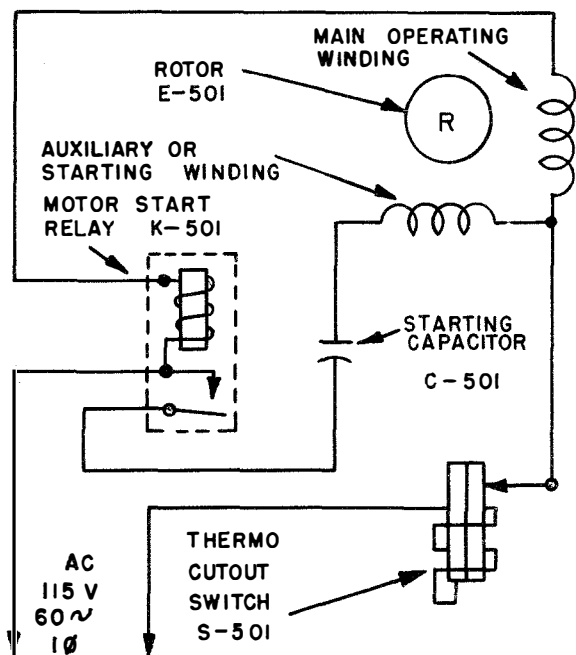

Figure 2-76A. AC Motor (Synchronous) PD-17A/U,
b. AC MOTOR (SYNCHRONOUS) PD-17A/U. (See figure 2-76A.)—The synchronous motor is for use with single phase, 115 volt (plus or minus 10 per cent) alternating current, at a frequency of 60 cycles per second (plus or minus 0.5 cycle). It is a  $\frac{1}{20}$  horsepower, 3600 rpm, two pole, wound stator, ball bearing motor, with a squirrel cage type rotor. The stator has two windings, a main operating winding, and an auxiliary winding. The auxiliary winding is in series with a 43 mf a.c. electrolytic capacitor C-501, and with a current operated motor starting relay K-501. The initial starting current causes the relay to pull up and its contacts close the auxiliary winding circuit. As the rotor gains speed, the current flowing through the motor (and also the relay coil), decreases. When a predetermined current value is reached the relay armature is released, the relay contacts are opened, and the auxiliary winding circuit is disconnected from the line. The rotor E-501 continues to accelerate until it reaches synchronous speed (3600 rpm). The motor is wired in such a manner that the rotor rotates counterclockwise when viewed from the fan end. The starting relay and capacitor together with a thermal cutout switch S-501 are mounted in a compartment on the underside of the motor. The thermal cutout switch is in series with both the main and auxiliary motor windings, and if excessive current is drawn by the motor, (due, for example, to a blocked rotor), the switch will open the circuit. This is to prevent overheating and possible damage to the motor if it is stalled. The switch may be manually reset if tripped,